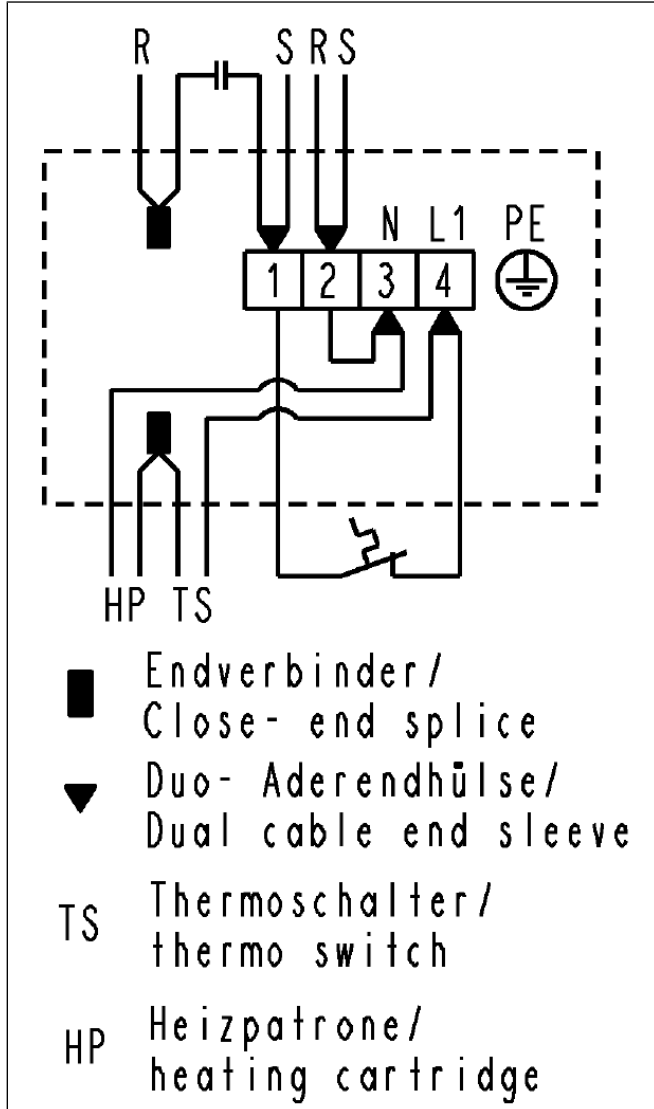

Fig.13: Electrical connection of .11 version
5. Connect the power cable to the L 1 and N connections of the terminal blocks (see Fig. 13).